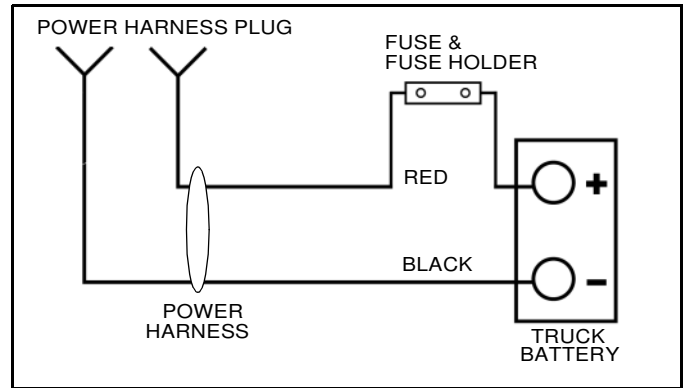

Figure 1-2
2. Mount the fuse holder near the battery using (2) #10 x 1" self-tapping screws. (See Figure 1-2).
3. Take the cover off of the fuse holder and remove the nuts on the studs. Place one end of the 2 ft. long power wire on one stud. (See Figure 1-2).